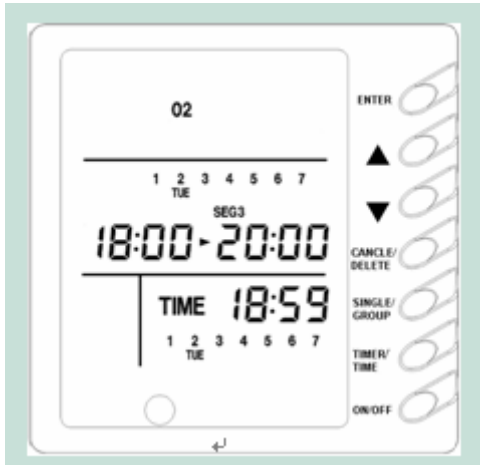

Fig.5.
Display of default page (fig.5):
- E.g.: In fig.5, the present time is 18:59 at Tuesday, unit 2 is under controlled state and off state, and the setting of timer period 3 at Tuesday for unit 2 is on time at 18:00 off time at 20:00, it means present time is right in that set time period, thus, timer period if displayed.